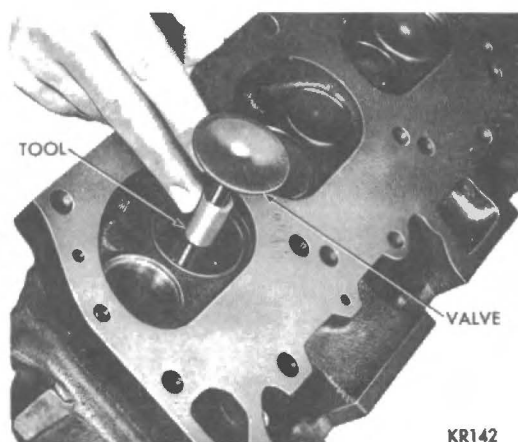

Fig. 4 Installing Tool C-3973 (Typical)
(1) Clean the valves thoroughly, and discard burned, warped and cracked valves.
(2) Measure the valve stems for wear. The new intake valve stem diameter should measure .372 to .373 inch and exhaust valve stem diameter should measure .371 to .372 inch. If the wear exceeds .002 inch, replace the valve.
(3) Remove the carbon and varnish deposits from the inside of the valve guides with cleaner, Tool C-756.
(4) Measure the valve stem guide clearance as follows: Install sleeve, Tool C-3973 over valve stem to hold valve at working height in head, as shown in Fig. 4.